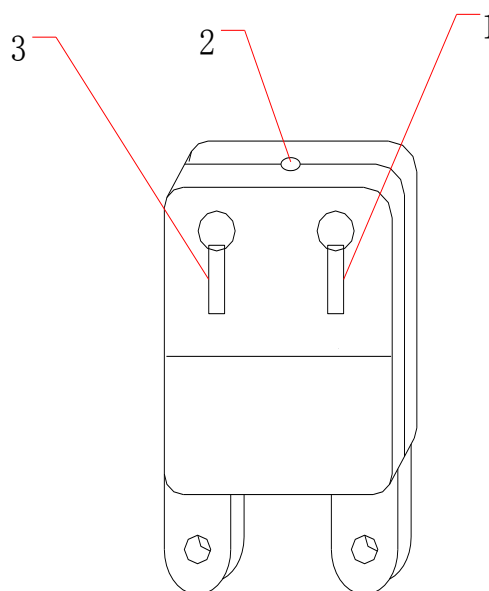
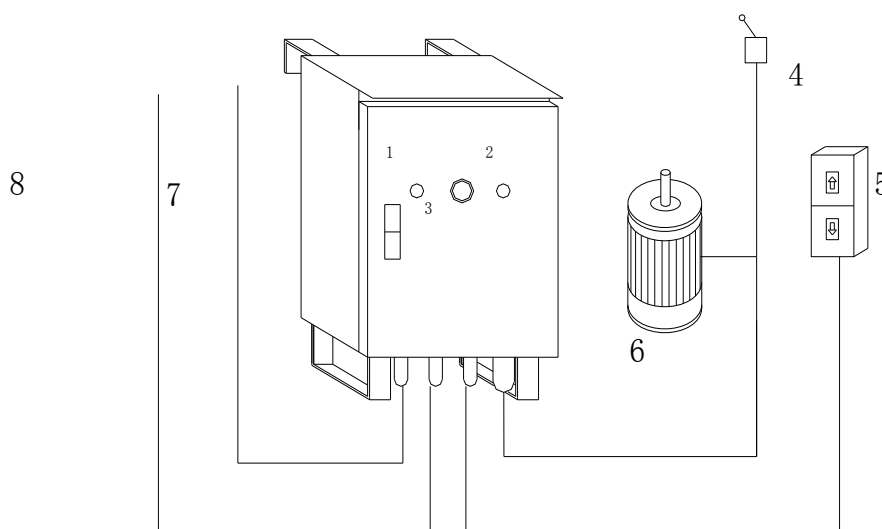

Figure 4: LSL30 Safety Lock
Figure 5: Electric Control System
3.3.1 The hoist is model LTD3. It consists of electromagnetic brake motor, centrifugal speed limiter and dual speed reduction system and “α” cable-guiding system (For details of structure, see attached figure 4 and attached figure 5). The hoist is driven by the electromagnetic brake three-phase asynchronous motor through the worm gear and a pair of reduced gears. The suspended chair will be moved upward and downward with the movement of the hoist.
3.5.1 The schematic diagram and wiring diagram see attached figure 4 and attached 5.